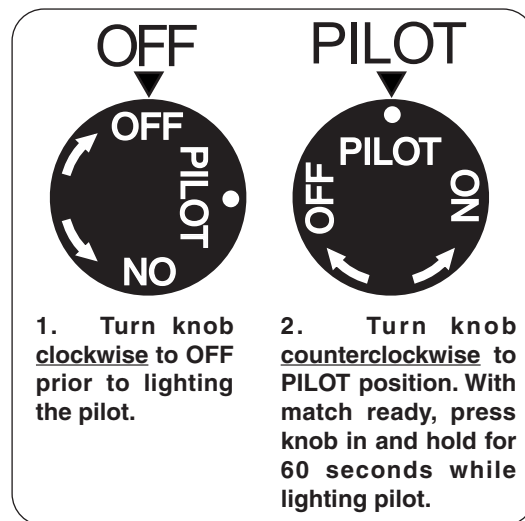

Fig. 25-1 Control knob detail (OFF, PILOT)
1. Locate the valve on the side of the unit. Push in the gas control knob slightly and turn clockwise to **OFF** (Fig. 25-1).
2. Turn the control knob counterclockwise to **PILOT** (Fig. 25-1). Push the control knob **firmly and fully** in and hold. Hold a long fireplace match or lighter near the thermocouple to light the pilot. Continue to hold the control knob in for approximately 60 seconds after the pilot is lit, then release the knob. The pilot will remain lit.